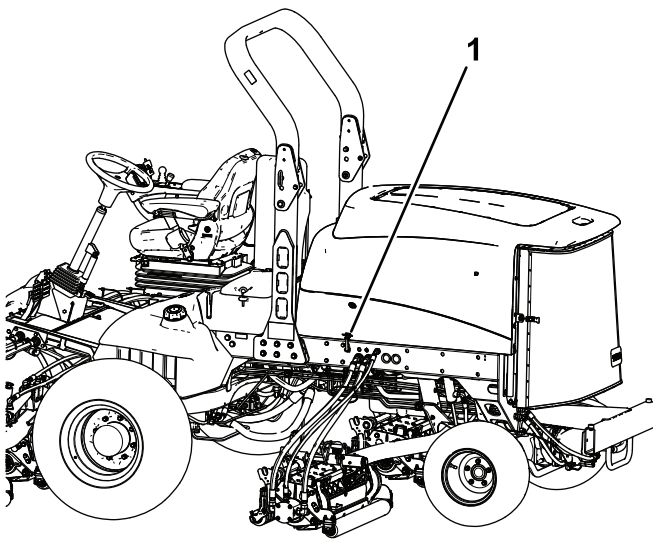

Figure 4
1. Unhook the hood latch from the hood-latch bracket (Figure 4).